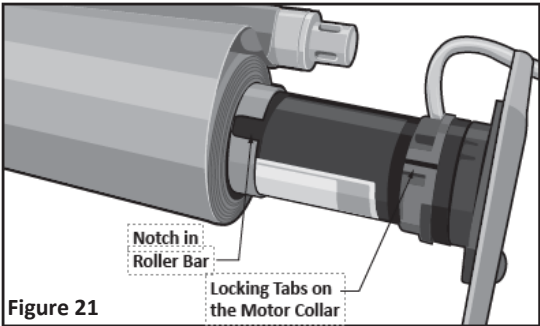

Figure 21
31. Locate the replacement motor removed in Step 25. Begin sliding the motor into the end of the roller bar, rotating it to align the locking tabs on the motor collar with the notch on the roller bar. While holding the roller bar, push the motor into the roller bar until it is fully seated in the notch, then slide the roller bar into the housing. See Figure 21 and Figure 22.